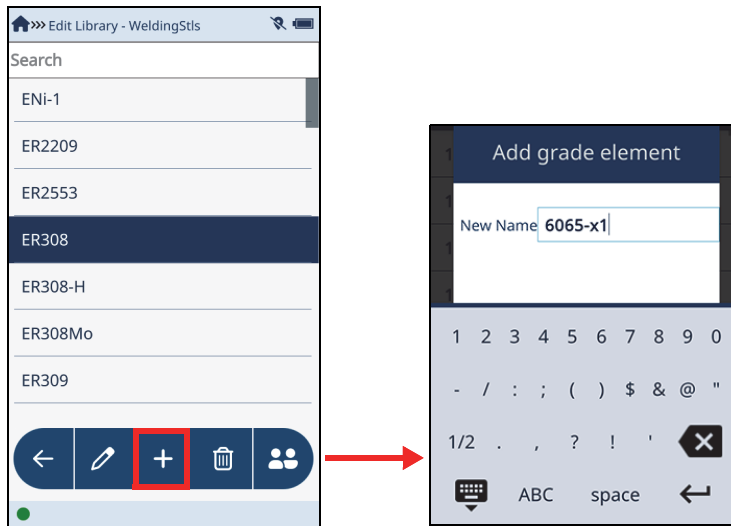

Figure 2-83 Edit Library screen (left), Add Grade Element dialog (right)
1. In the **Grade Libraries** screen, tap the **Edit** button () to open the **Edit Library** screen (see Figure 2-83 on page 95).
2. Tap the **Add** button () to open the **Add Grade** dialog box (see Figure 2-83 on page 95).